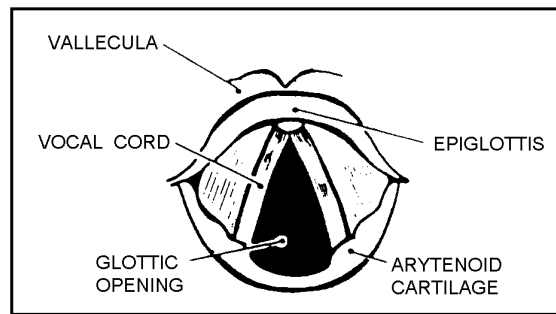

Figure 3-69
- b. Insert the ET tube and carefully guide the tip of the tube between the vocal cords until the cuff is just below the level of the vocal cords. (See Figure 3-69.)